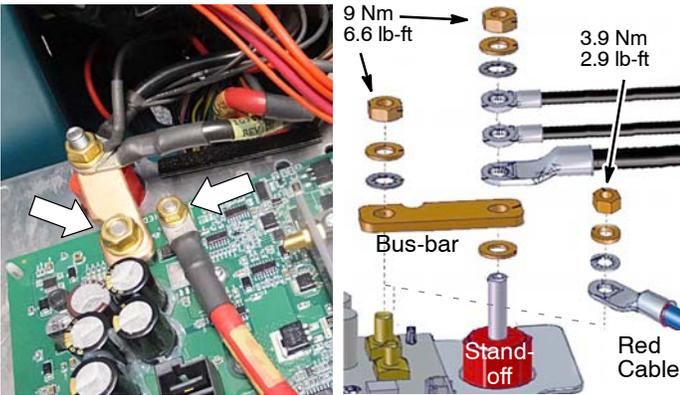

Fig. 6
8. Reconnect the bus-bar and red cable to new circuit board as shown (Figure 6).